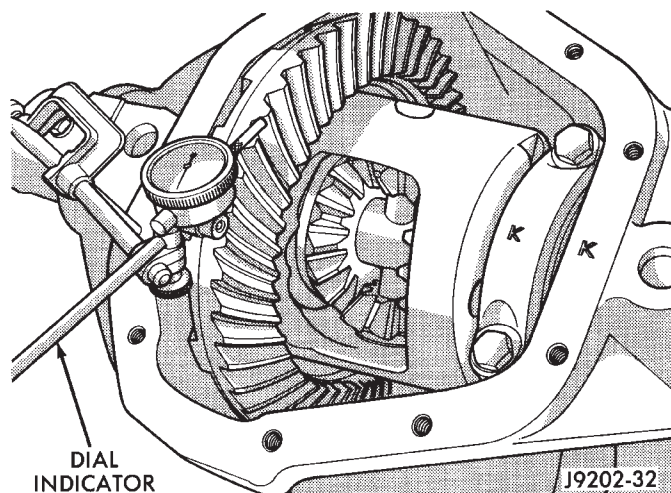

Fig. 73 Ring Gear Backlash Measurement
- (23) Record dial indicator reading.
- (24) Subtract 0.002 in. (0.05 mm) from the dial indicator reading to compensate for backlash between ring and pinion gears. This total is the thickness of shim required to achieve proper backlash.
- (25) Subtract the backlash shim thickness from the total preload shim thickness. The remainder is the shim thickness required on the pinion side of the axle housing.
- (26) Rotate dial indicator out of the way on guide stud.
- (27) Remove differential case and dummy bearings from axle housing.
- (28) Install new side bearing cones and cups on differential case.
- (29) Install spreader W-129-B, utilizing some components of Adapter Set 6987, on axle housing and spread axle opening enough to receive differential case.
- (30) Place side bearing shims in axle housing against axle tubes.
- (31) Install differential case in axle housing.
- (32) Rotate the differential case several times to seat the side bearings.
- (33) Position the indicator plunger against a ring gear tooth (Fig. 73).
- (34) Push and hold ring gear upward while not allowing the pinion gear to rotate.
- (35) Zero dial indicator face to pointer.